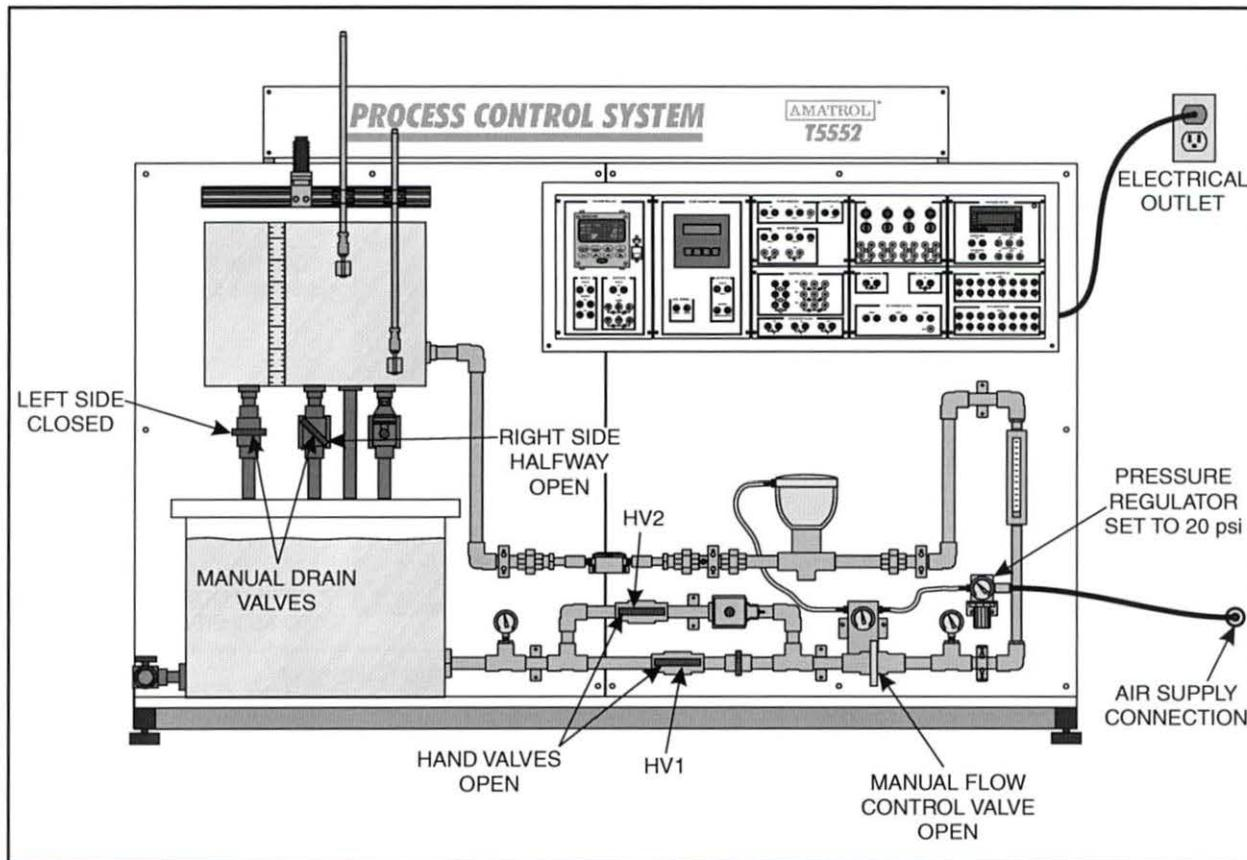

Figure 48. T5552 Setup
- 2. Perform the following substeps to set up the T5552, as shown in figure 48.